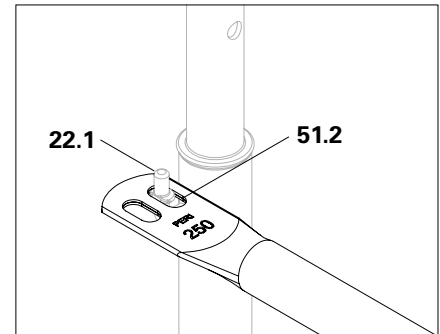

Fig. A3.03b
2. Align the slot (**51.2**) with the guardrail hook (**22.1**) and insert. (Fig. A3.03b)